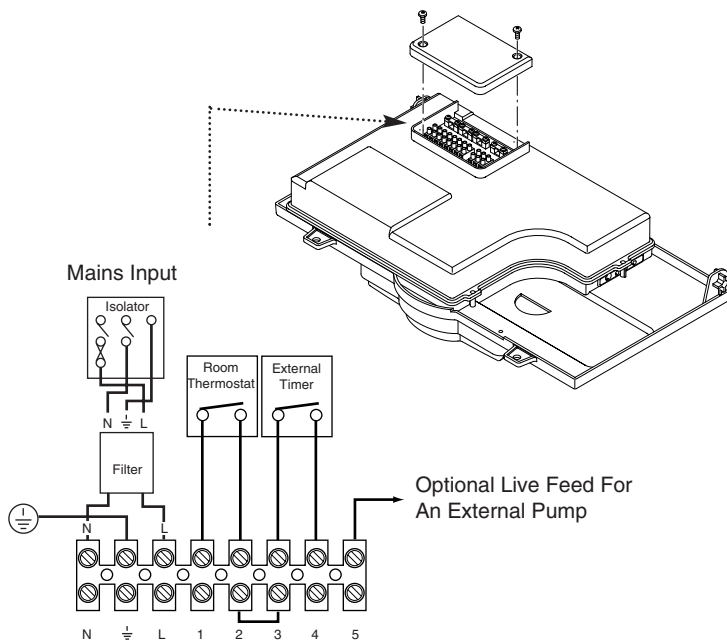

Fig. 30
1. To fit a 2-wire thermostat, remove link and wire the thermostat switch between positions 1 & 2 (Figs. 30 or 31a). A cable clamp is provided for incoming cables.